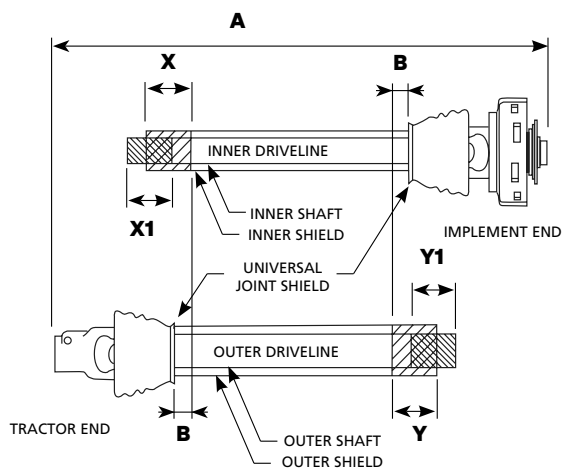

Figure 1 - Driveline Shortening
9. With driveline level, measure 1" back from universal joint shield to end of outer driveline shield as shown in Figure 1 of SIZING THE PTO SHAFT. If measurement is less than 1", then shorten driveline using instructions provided.
Refer to Figure 1